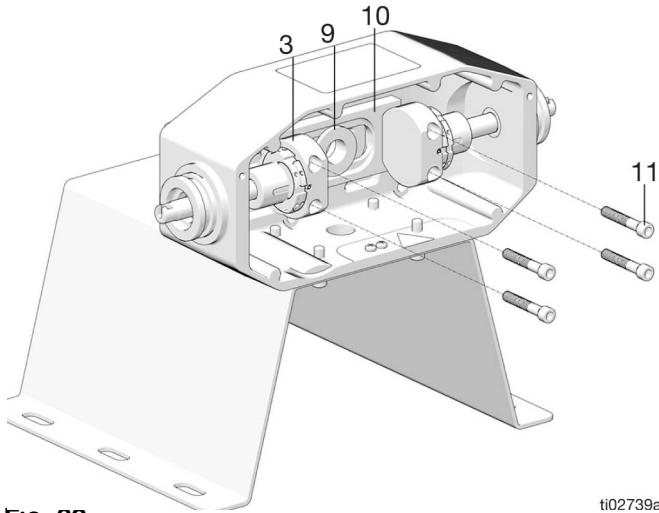

FIG. 32:
8. Remove the motor (6).
9. Remove stroke adjuster screws (11) (FIG. 32).